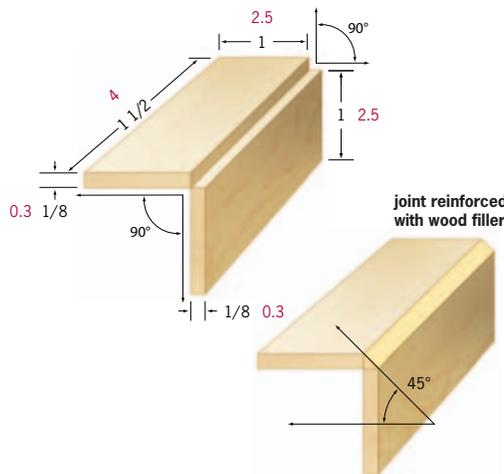

Fig. 6 \_\_\_\_\_
- Fig. 6** corner joint; Example: Answers will vary. Sample answers: radios, decorative boxes.